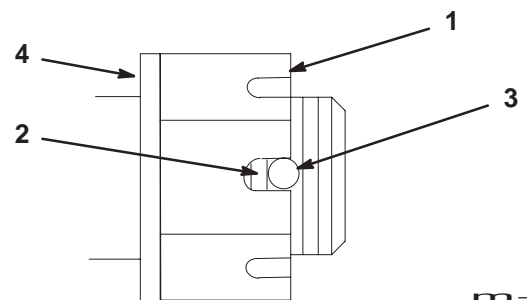

Figure 47
3. Torque slotted nut to 125 ft-lbs (169.5 N•m) (Fig. 47).
4. Check the distance from bottom of slot in nut to inside edge of hole. Two threads or less should be showing (Fig. 47).
5. If more than two threads are showing remove nut and install washer between hub and nut (Fig. 47).
6. Torque the slotted nut to 125 ft-lbs (169.5 N•m) (Fig. 47).
7. Tighten nut until the next set of slots line up with the hole in the shaft (Fig. 47).